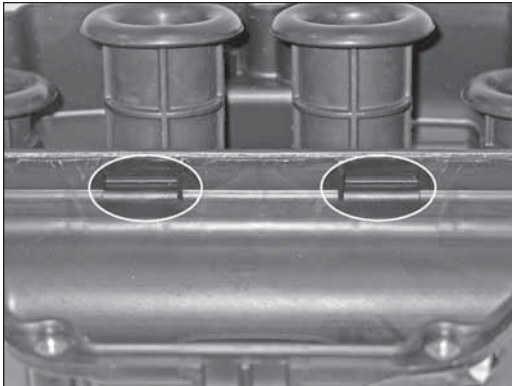

Fig. 1
**NOTE:** Locate the 2 grooves in the air box that the K&N® air filter will fit into. (Fig. 1) Hold the K&N® air filter at an angle to line up the tabs on the air filter with the grooves in the air box. (Fig. 2)